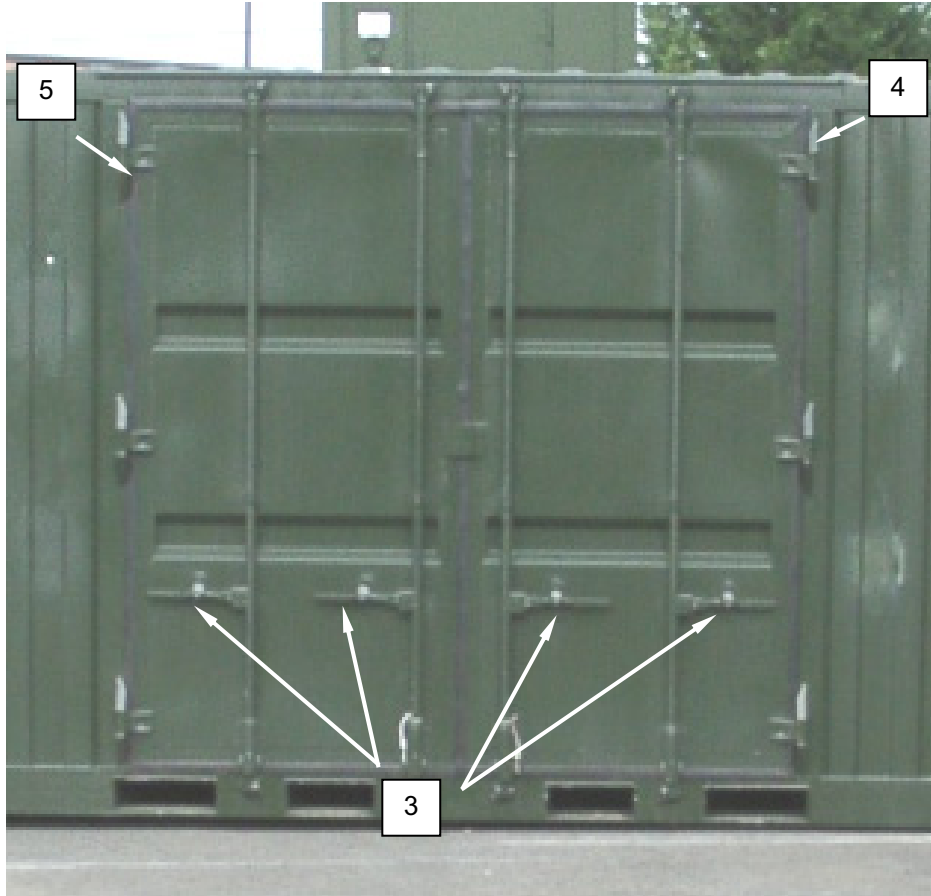

Figure 2. Double Entrance Doors.
1. Unlatch latching mechanisms (**Figure 2, Item 3**) of right-hand door (**Figure 2, Item 4**) and open right-hand door.
2. Unlatch latching mechanism (**Figure 2, Item 3**) of left-hand door (**Figure 2, Item 5**) and open left-hand door.